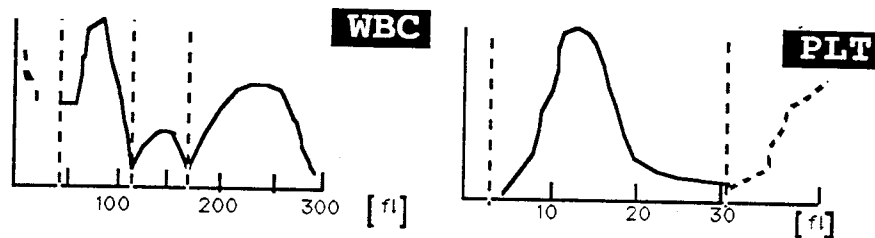

Figure 1-2 White Blood Cells with the Platelet Aggregation
- Specimens containing aggregated platelets may show incorrect W-SCC and W-SCR as indicated by an elevation of the histogram curve at the lower discriminator. See Figure 1-2.
Numerous specimens have partial aggregation in platelets, caused by the incorrect amount of anticoagulant, venipuncture technique, and pseudothrombocytopenia. Left of Figure 1-2 shows the WBC histogram, and the right shows the PLT histogram. In some cases specimens having platelet aggregation may indicate similar particle size distribution to that of clotted specimens, but in most cases show a rough slope on the right side shoulder of the PLT particle size distribution histogram. However, such a distribution cannot be found in every specimen having platelet aggregation, since the depth of the valley in the WBC distribution (indicated with the up arrow) varies depending upon the size and the number of the aggregated mass. Similar distribution is also shown in the case of thrombocytosis or when the number of platelets is greatly increased. When the PLT count is low and both WBC and PLT distributions are abnormal, platelet aggregation should be considered as a possible cause.